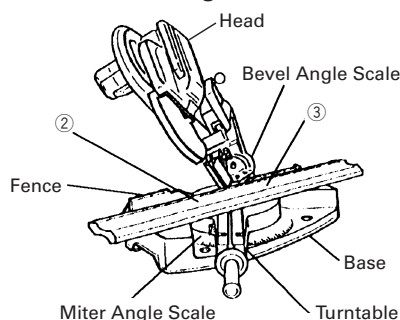
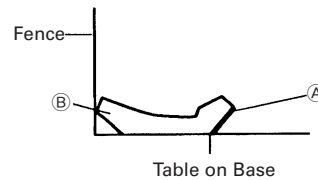

Fig. 39
Fig. 41
(2) Setting to cut crown moldings at positions ② and ③ in Fig. 36 (see Fig. 39; tilt the head to the left):
- ① Turn the turntable to the left and set the Miter Angle as follows:
- ② Tilt the head to the left and set the Bevel Angle as follows:
- ③ Position the crown molding so that the lower surface (B in Fig. 35) contacts the fence as in Fig. 41.